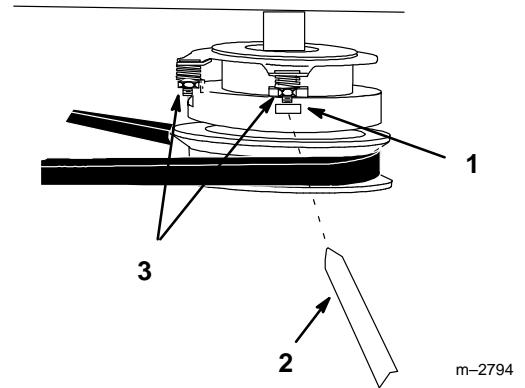

Figure 39
The electric clutch has three (3) adjustment nuts that all must be adjusted the same (Fig. 39).
1. Insert a 0.015 inch (.40 mm) feeler gauge into the slot (Fig. 39).